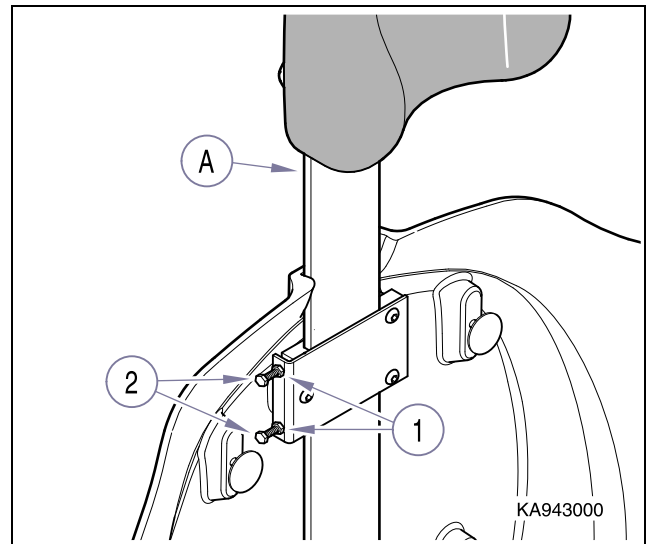

Figure 4-3. Headrest
- (1) Raise Back Up function all the way up.
- (2) Remove back upholstery (refer to para 4.2).
- (3) Loosen two jam nuts (1, Figure 4-3).